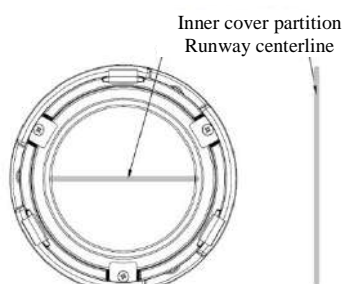

Figure 3-8
- Unscrew the set screw with a socket head wrench (see Figure 3-8).
- The arrow on the outer cover of the lighting fixtures points at the runway centerline and the inner cover partition may be perpendicular to the centerline (see Figure 3-8).